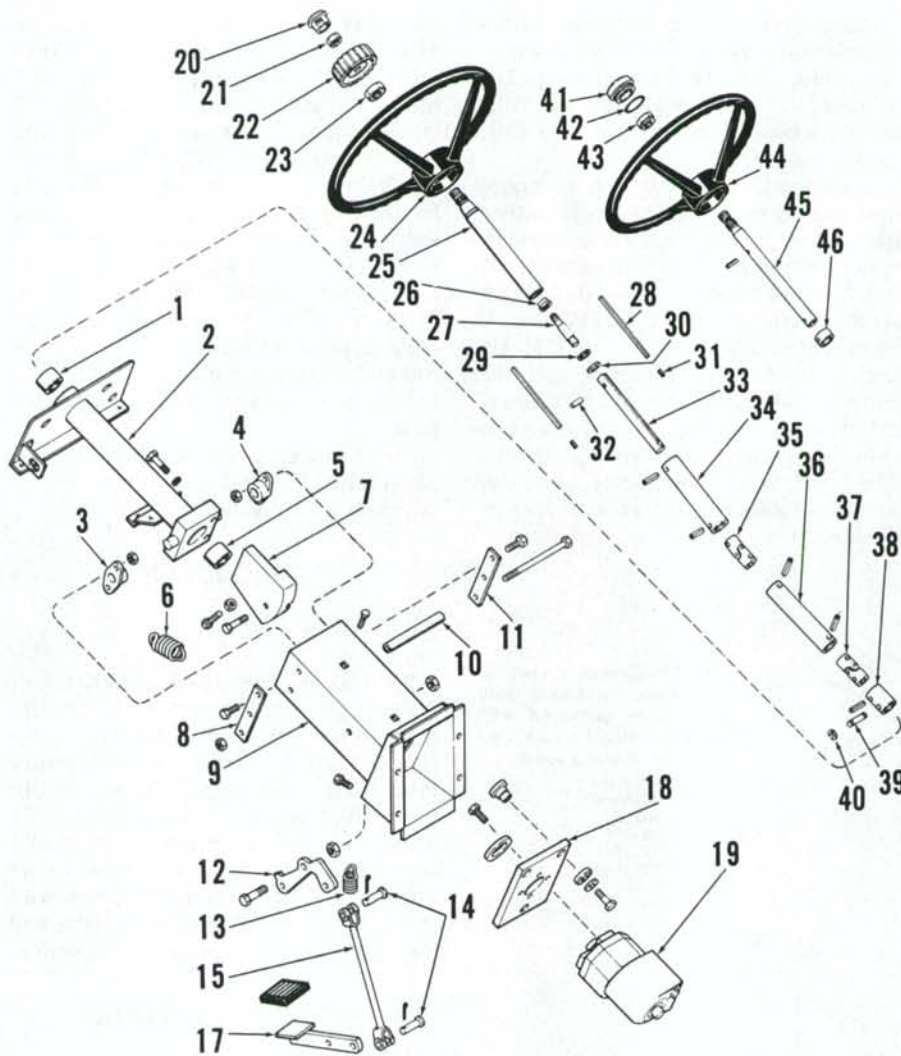

Fig. 39—Exploded view of steering shaft and column assembly.
40. Figure 39 shows steering column and adjustable parts. To remove steering column after manual pump is removed, proceed as follows: On telescopic column remove plug (20). Holding lock knob (22) remove nut (21), then remove lock knob. Remove nut (23) and using a suitable puller, remove steering wheel. Remove shroud from steering column. Disconnect battery and carefully remove all electrical switches and wiring from steering column panel. Disconnect tilt return spring (6), unbolt column pivot bearings (3 and 4) and remove column (2) by pushing on top of telescoping lock shaft (27). Remove roll pin securing inner shaft (33) to link (34). Remove internal snap ring and washer (29 and 30) from inside of outer shaft (25). Separate inner and outer shafts. Remove friction locks (31), lock keys (28) and stop pin (32) from inner shaft. Remove locknut (26) and lock shaft (27) from outer shaft. Press bushings (1 and 5) from column if necessary. Bushings are presized. Remainder of disassembly is obvious after examination.